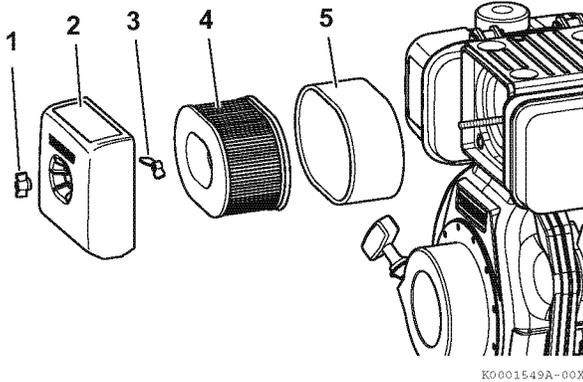

Figure 7
1. Remove the wing nut (1, **Figure 7**).
2. Remove the air cleaner cover (2, **Figure 7**).
3. Remove the wing nut (3, **Figure 7**).
4. Remove the air cleaner element (4, **Figure 7**) and outer foam element (5, **Figure 7**).
7. Clean the inside of the air cleaner cover (2, **Figure 7**).
8. Install the air cleaner element (4, **Figure 7**) into the air cleaner case. And check accurately that the air filter cartridge is properly fitted and aligned with its own seat of the air filter box.
9. Install the wing nut (3, **Figure 7**) and hand tighten. Overtightening the wing nut will damage the air cleaner assembly.
10. Slide the outer foam element (5, **Figure 7**) over the air cleaner element (4, **Figure 7**).
11. Install the air cleaner cover (2, **Figure 7**) (make sure the vertical direction of the cover).
12. Install the wing nut (1, **Figure 7**) and hand tighten. Overtightening the wing nut will damage the air cleaner assembly.